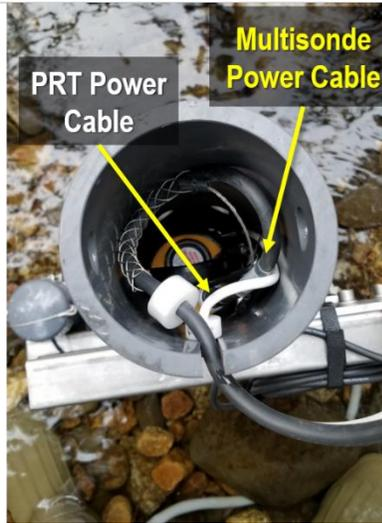

Figure 39. Disconnect the black power cable
**STEP 2.2** | Disconnect the black power cable from the Multisonde 6-pin bulkhead connector (**Figure 39**). (The white cable is the power cable to the PRT. Do not disconnect this cable.)